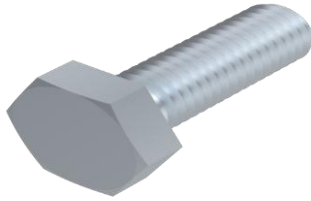

Fig. 2.32: Hexagonal Headed Bolt
- A hexagonal headed bolt has a head with six flat sides. This shape allows for easy gripping with a wrench or spanner (Fig. 2.32).